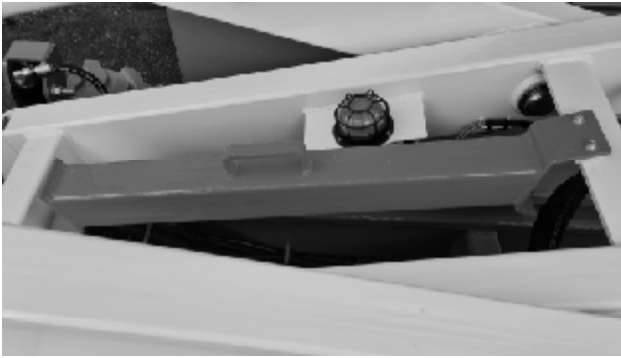

Figure 7.3 – Safety Prop in Stowed Position
2. Lift the safety prop back to the stowed position (refer to Figure 7.3).